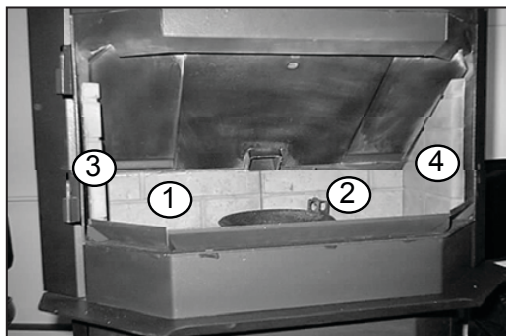

Figure 21.3
6. Complete brick set, correctly installed. **Figure 21.3**.